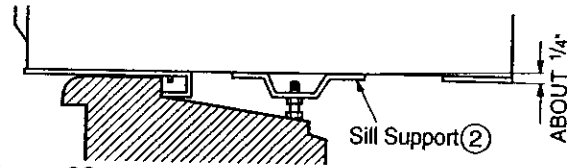

Figure 89
10. The cabinet should be installed with a very slight tilt (about 1/4") downward toward the outside (See Figure 89). Adjust the bolts and the nuts of sill supports to level the cabinet.